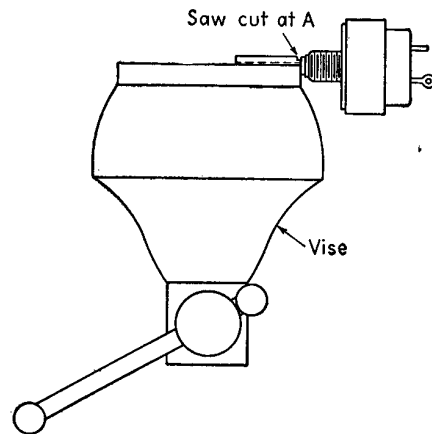

FIG. 11-14.—Cutting the volume-control shaft for a push-on knob.
- b. Clamp in vise with mark showing. Cut vertically at *A* with a hack saw, as shown in Fig. 11-14. Stop cutting before reaching